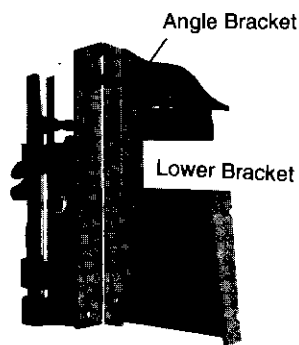

Figure 2
Use two 1/4-20 bolts, nuts, washers, and lock washers to mount the **LOWER BRACKET** to the machine as shown in Figure 2.
2. Remove the two hex nuts, lock washers, flat washers from the upright leg of the **Vertical Extrusion** at **Angle Bracket** in back. See Figure 2. Set them aside because you will reinstall them in step 7.